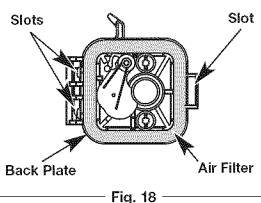

Fig. 18
- Remove the air filter (Fig. 18).
- Replace the filter (Fig. 18).
To reinstall the air filter cover, position the hooks on the left side of the air filter cover into the slots at the left side of the back plate (Fig. 18).